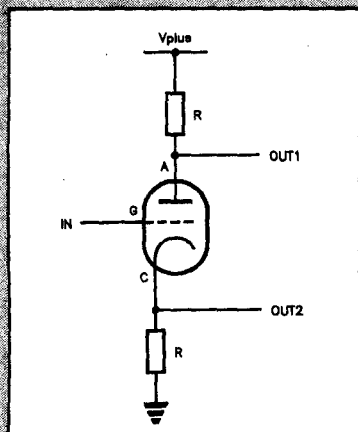
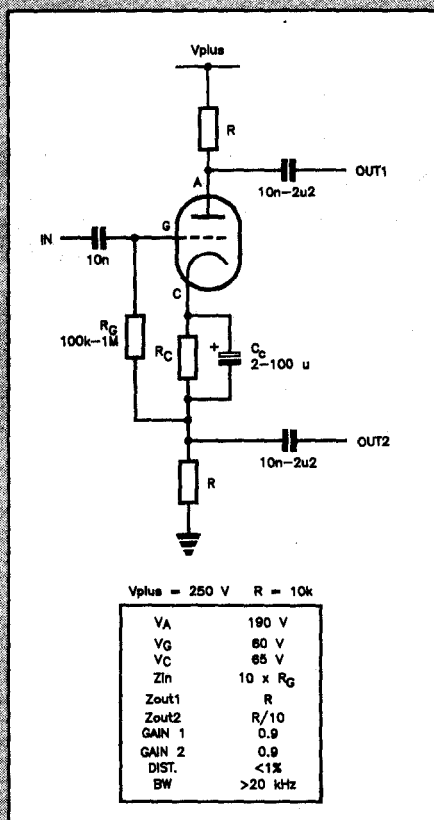

Figure 9.1. Single valve phase splitter.
Figure 9.2. An ac coupled phase splitter.
To keep costs down, the commonest valve phase splitter uses a single triode. It is a derivative of the valve current amplifier. The dc coupled circuit is shown in Figure 9.1. The voltage at the grid has to be about $V_{\text{plus}}/3$. In the ac coupled version shown in Figure 9.2 this voltage is set by the ratio of R to R_c and the characteristics of the valve. The output impedance at the anode (A) is R but that